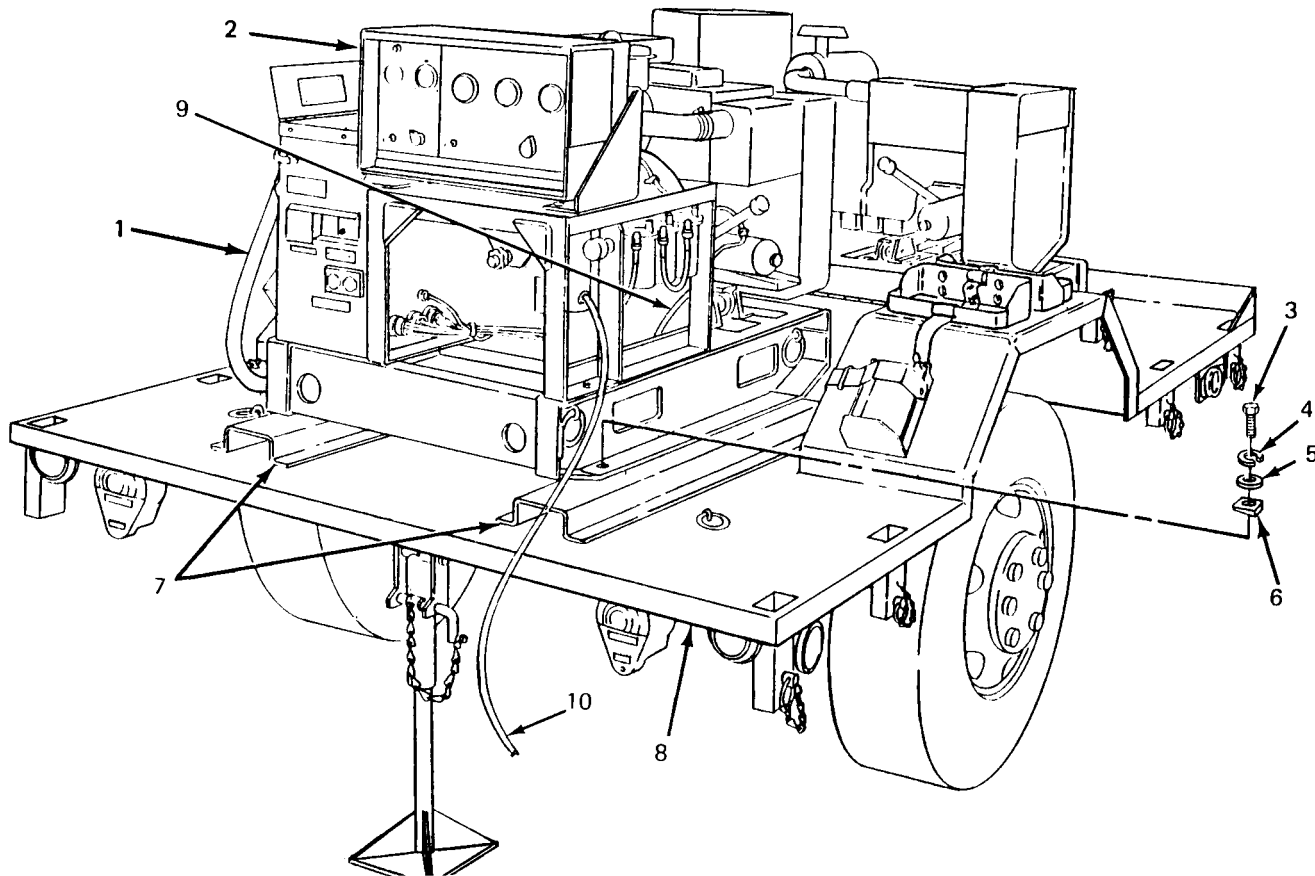

Figure 5-6. Detaching Generator Set from Trailer.
5-7. Generator Set Replacement. (See figures 5-6 and 5-7.) Power Plant AN/MJQ-18 has two generator sets. Replacement procedures are identical for both.
- (1) Remove fitted cover (paragraph 3-11, a.(1)).
- (2) Remove six bow assemblies (paragraph 3-11, b.(1)).
- (3) Disconnect all power cables and ground wires (1, figure 5-6) from generator set (2).
- (2) Lower generator set (2, figure 5-6) onto mounting rails (5) on trailer bed (6) and aline mounting holes.
- (3) Insert four screws (3), four lockwashers (4), four flat washers (5) and four beveled washers (6) down through generator set skid into nuts welded to underside of mounting rails (7).
- (4) Position beveled washers (6) so that screw heads are parallel to tops of washers. While holding beveled washers in position, tighten hardware to secure generator set (2) to trailer (8).
- (5) Insert engine oil drain hose (9) through grommet in trailer bed (8).
- (6) Install six bow assemblies (paragraph 3-11, b.(2)).
- (7) Install fitted cover (paragraph 3-11, a.(2)).